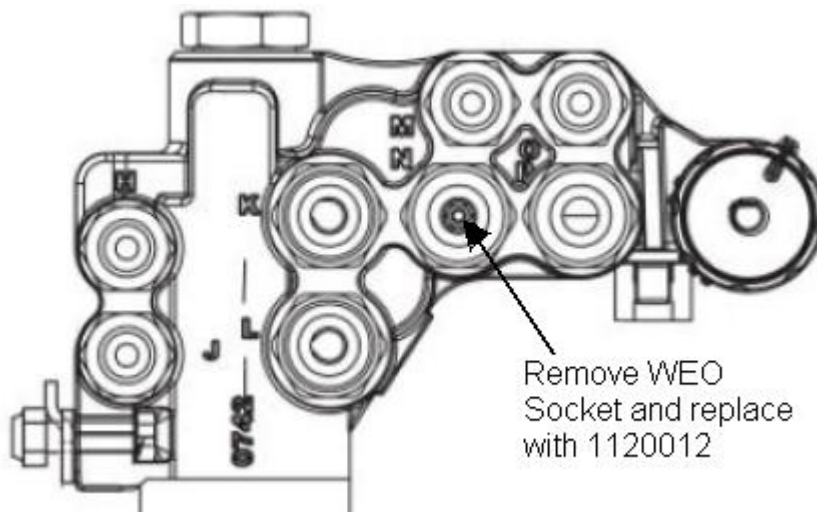

figure 1. Compact valve
1. Remove WEO socket from port shown in fig. 1 below and replace with fitting 1120012. Use M10 hex key wrench for removing plug.